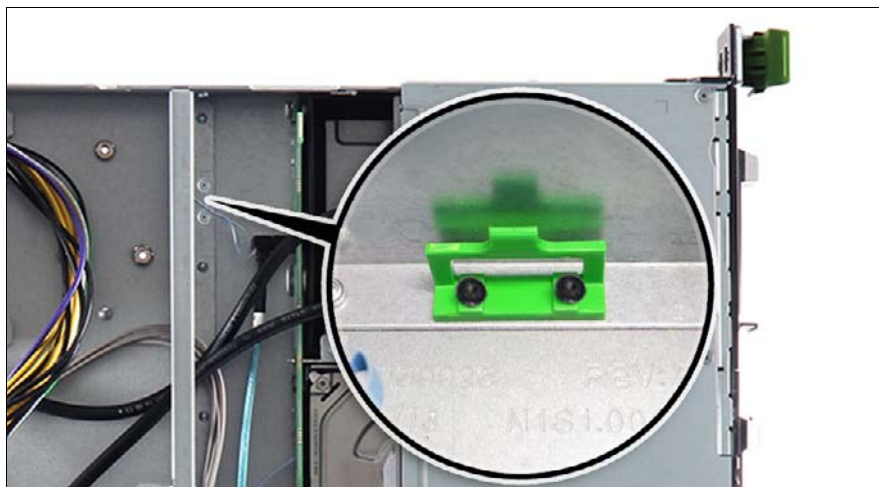

Figure 156: Example ODD latch on fan bridge
- ▶ Remove the two screws and take the ODD latch from the fan bridge (see figure 156).
- ▶ Fasten the ODD latch with two screws to the fan bridge (see figure 156).